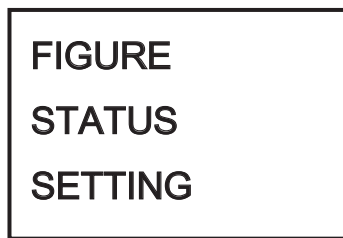

Fig.3 : Main menu
- 3) Press the ENT button, it will change to main menu, see Fig3 ,